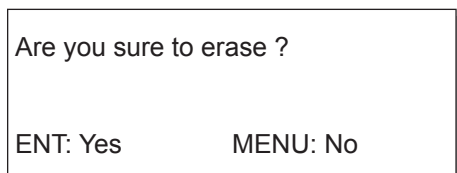

Figure 2-6 Prompt for erasure of track
- 4) Press **▶** to select Yes. The message shown in Figure 2-6 appears.